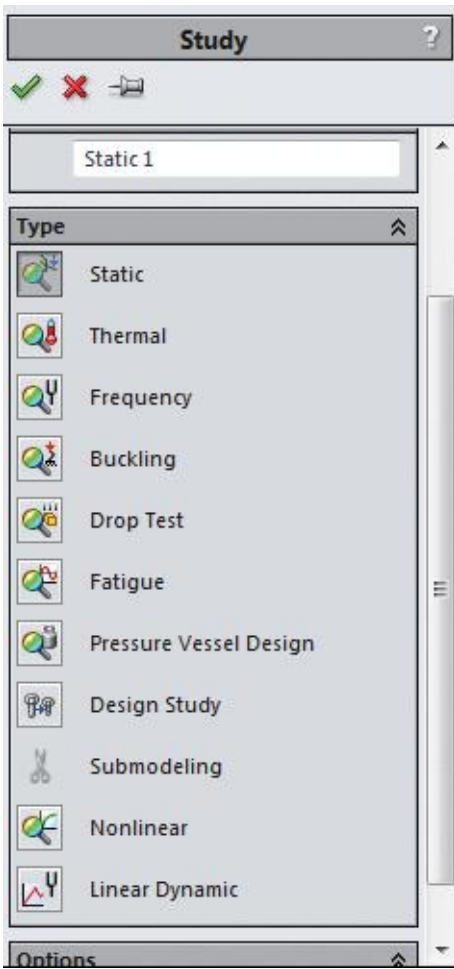

Figure-9. Study PropertyManager
- Click on the **New Study** button from the drop-down. The **Study PropertyManager** will display; refer to Figure-9.